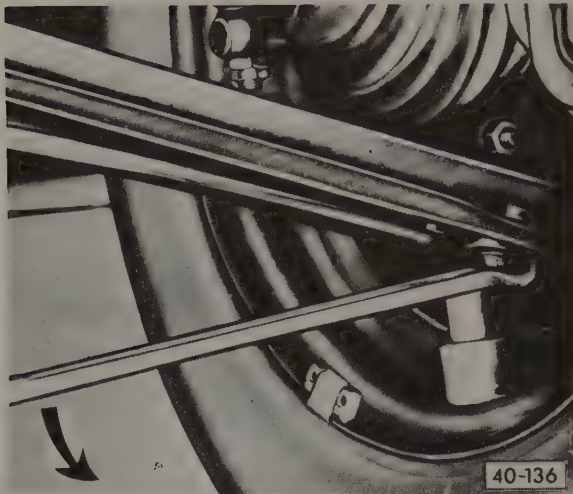

Fig. 5-22. Checking ball joint wear with pry bar on ball joint, and spacer on wheel rim for use as support. Moving lever (arrow) will compress joint.
2. Place the tip of the pry bar directly under the socket of the ball joint, and place the metal spacer between the shank of the pry bar and the wheel rim as shown in Fig. 5-22.